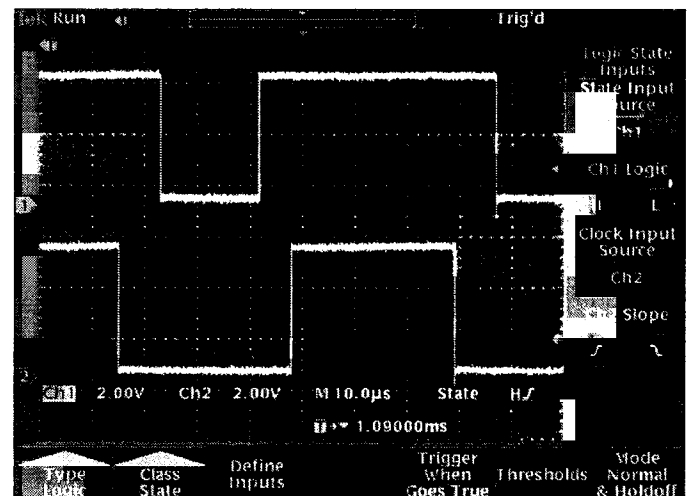

Figure 3. State triggering confirms that this Write Enable signal (bottom) is occurring when data (top) is valid.
State triggering is ideal for tracking events that result (or should result!) from the occurrence of a "clock" pulse. State triggering helps you confirm that the data on synchronous signals is arriving in the proper sequence. The trigger system monitors two inputs: a "state," or data, input, and the clock (which doesn't have to be a clock pulse; just a transition that enables data to move into the device). In Figure 3, for example, the Write Enable (WE) signal is used as the "clock." The TDS3000 is set to trigger when Data is true (1) and Write Enable makes a transition from 0 to 1. Is Write Enable occurring when the Data signal is valid? In this instance, yes. The arrival of Write Enable prompts the oscilloscope to check the Data input, which is found to be valid at the time of the WE transition. The instrument triggers and displays the two signals.